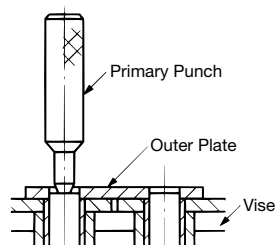

Figure 14: Tapping Pin with Primary Punch
- Using a primary punch suitable for the chain size (refer to the Accessories section of the Tsubaki Drive Chain and Sprockets catalog), place the punch on the head of the pin that was ground down and strike with a hammer. Be sure to strike the pins on the outer link alternately to remove them evenly and at the same time. Strike the pins until they are just about to release from the outer plate (Figure 14).